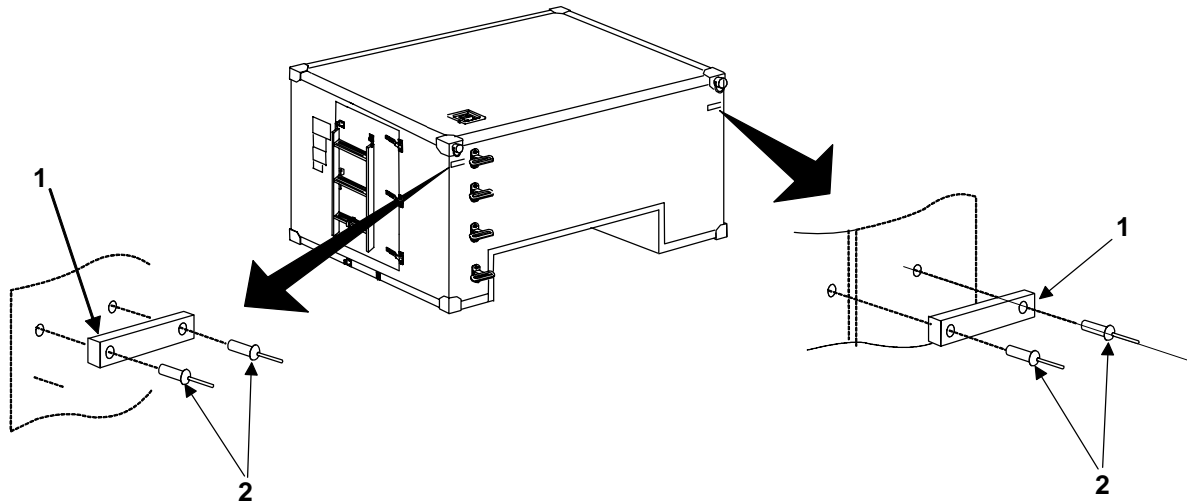

Figure 1. Lifting Ring Bumper.
1. Position bumper (figure 1, item 1) on shelter.
2. Align holes and secure bumper (figure 1, item 1) in position with two rivets (figure 1, item 2).
3. Reapply sealant around periphery of bumper (figure 1, item 1).